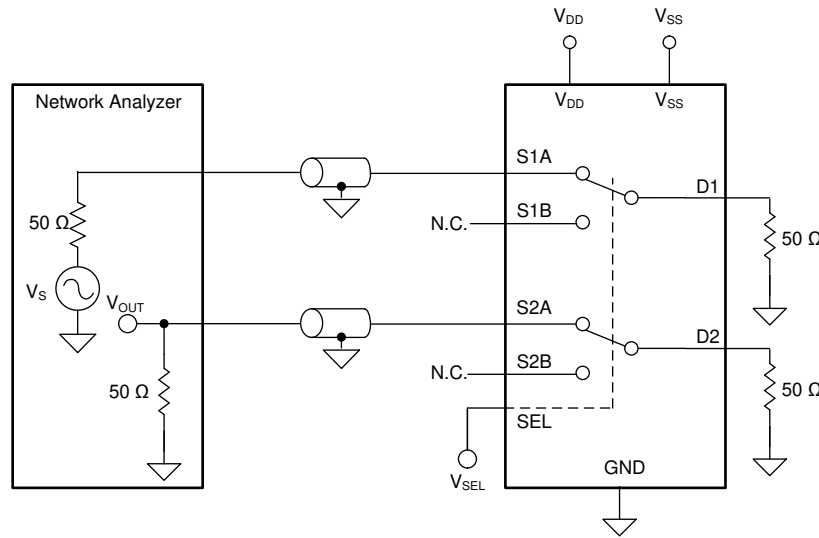

Figure 7-9. Inter-Channel Crosstalk Measurement Setup
2. Inter-channel crosstalk: the voltage at the source pin (S_x) of an on-switch input, when a 1-VRMS signal is applied at the source pin of an on-switch input in a different channel, as shown in Figure 7-9.